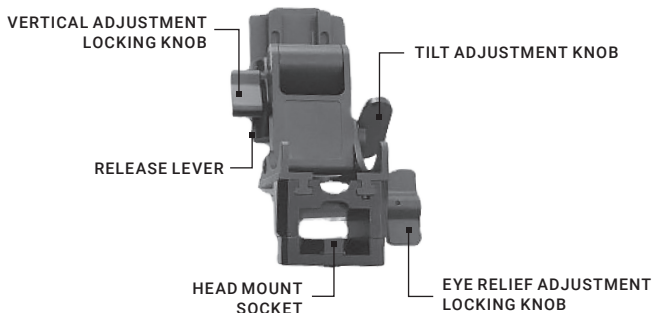

FIGURE 2-6. HEAD/HELMET MOUNT ADAPTER OPERATION
2. To set your eye relief, loosen the eye relief adjustment locking knob (Figure 2-6). Move the goggles back towards your eyes until the eyecups are comfortably sealed around your eyes. Tighten the locking knob.